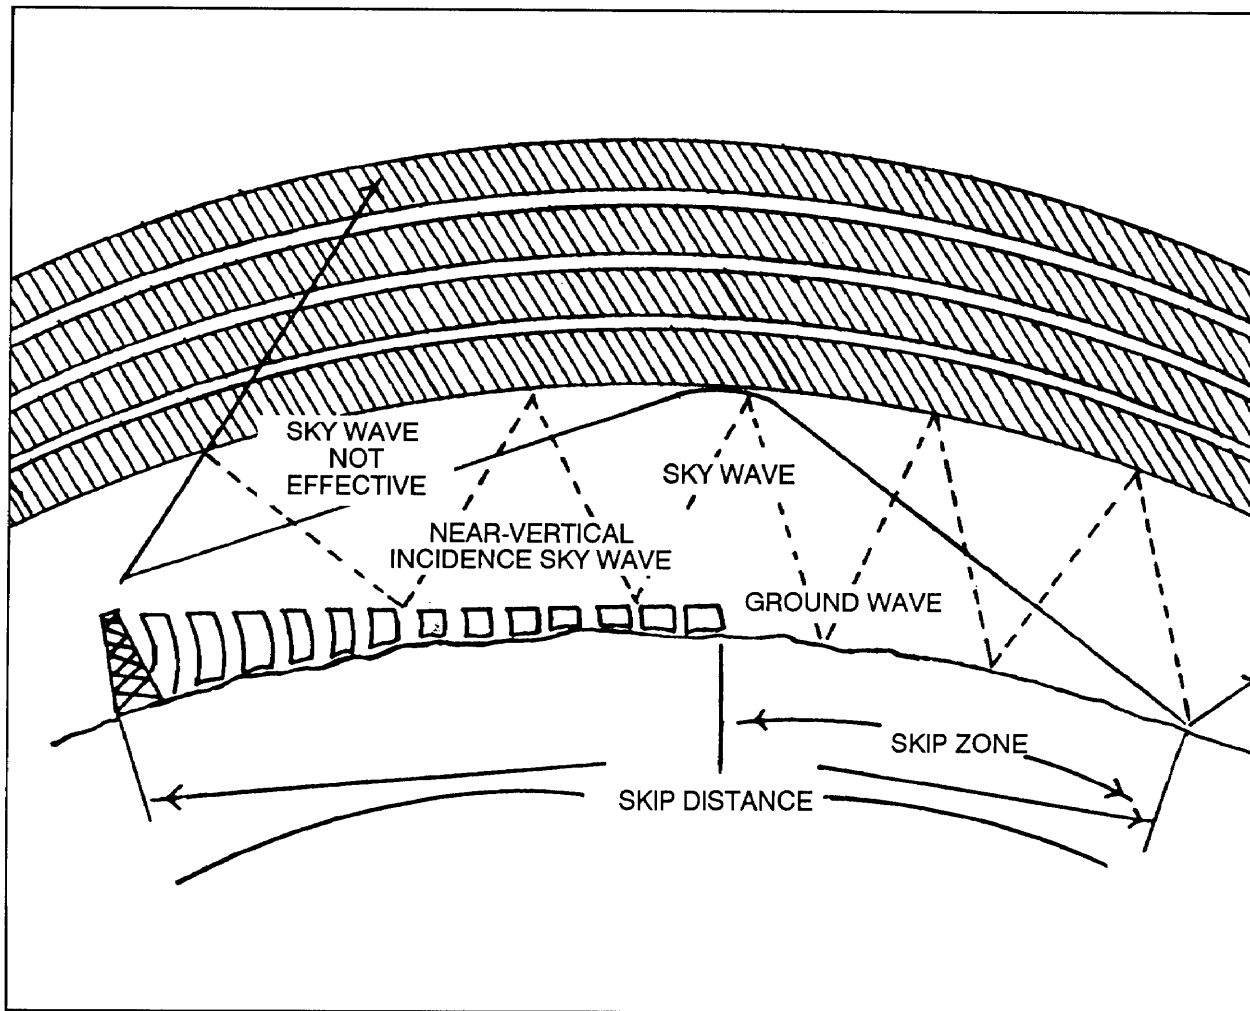

Figure D-4. HF skip zone and use of NVIS.
(4) Depending on the frequency, antenna, and other factors, an area may exist between the longest ground-wave range and the shortest sky-wave range where no signal exists. This is called the skip zone and no communication is possible (Figure D-4). The NVIS effect can eliminate this problem.